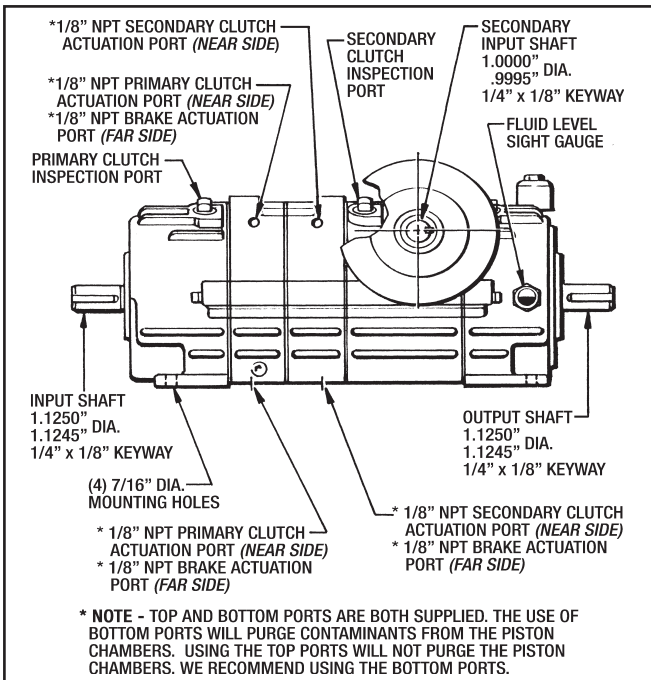

Figure 5.1 - Set-Up for Operational Checks
(See Figure 5.1)
The setup shown in Figure 5.1 is only an example. The basic requirement is that the air supply have a quick acting shut-off action. Lever type shut-off valves suitable for air operation would be another option.
1. Install the 60 to 80 PSI air supply to the Drive Unit and remove the (3) Inspection Plugs as shown in Figure 5.1.